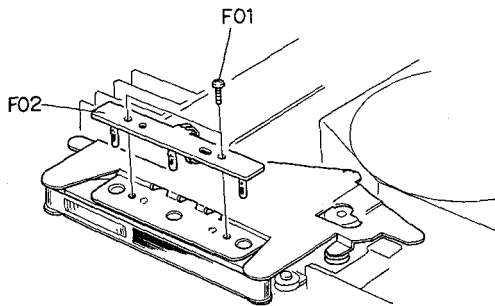

Fig. 3.4
Refer to Fig. 3.4. Remove Front Panel Ass'y referring to items 3.1 – 3.3. Remove F01, then F02 (Lamp P.C.B. Cover).